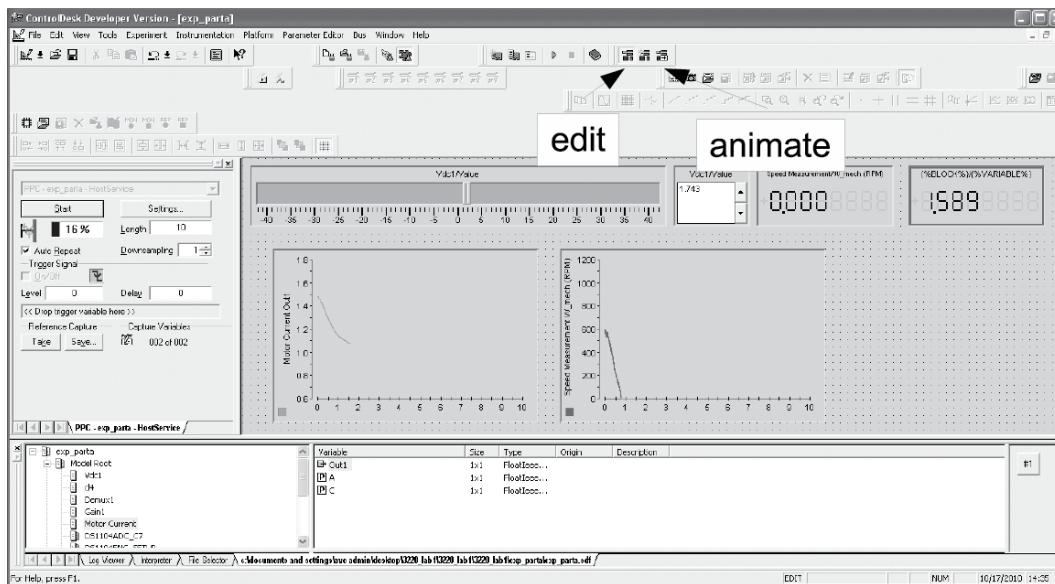

Figure 3: Various control buttons for starting and stopping the system
4. *Control interface set-up* - Start the dSPACE ControlDesk software on the desktop computer. Open the .sdf file containing the variables needed by the control software by clicking **File>Open Variable File**. This file can be found in the same working directory used above and is entitled **exp parta.sdf**. Next open the layout file **expPartA.lay** from the same directory by clicking **File>Open**. Click the **PLAY** button (green arrow) to begin the control program (if it is not already selected), then switch to **Animation Mode** as shown in the Figure 3 below. Gently experiment with the controls to command the drive motor. Observe the resulting angular speed, armature voltage, and armature current. In order to stop the system, revert the system to **Edit Mode** and click the **STOP** button. If the **Capture Settings Window** is not open, you can display it clicking **View>Controlbars>Capture Settings Window**. Within this window, set the **Length** to 10 seconds. The Capture Settings Window may initially open collapsed against the right side of the ControlDesk.